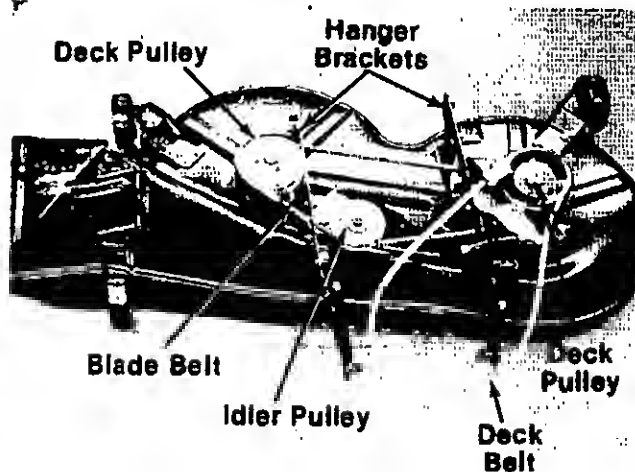

FIGURE 36.
4. Push the idler pulley inward towards the center of deck and slip the blade belt off of idler pulley. See figure 36.
6. Slide the blade belt off of the deck pulleys and slip underneath the hanger brackets. See figure 36.